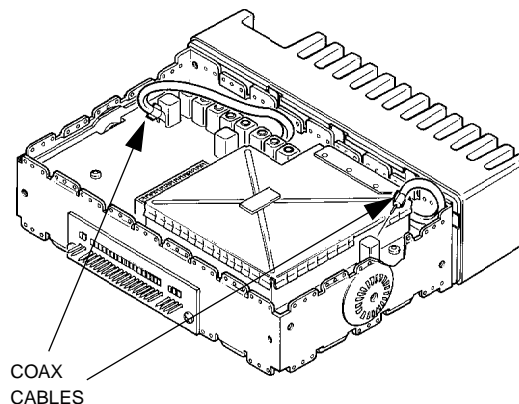

Figure 1-3.
1. Disconnect the transmit and receive coaxial cables from the RF board (Figure 1-3).